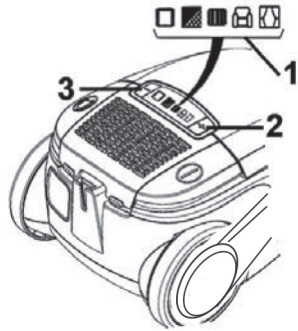

Fig.14
You can adjust the suction power to suit the type of floor being cleaned. Use the symbols on the suction power display as a guideline (Fig. 14/1):
- **+** button (Fig. 14/2)
- **-** button (Fig. 14/3)